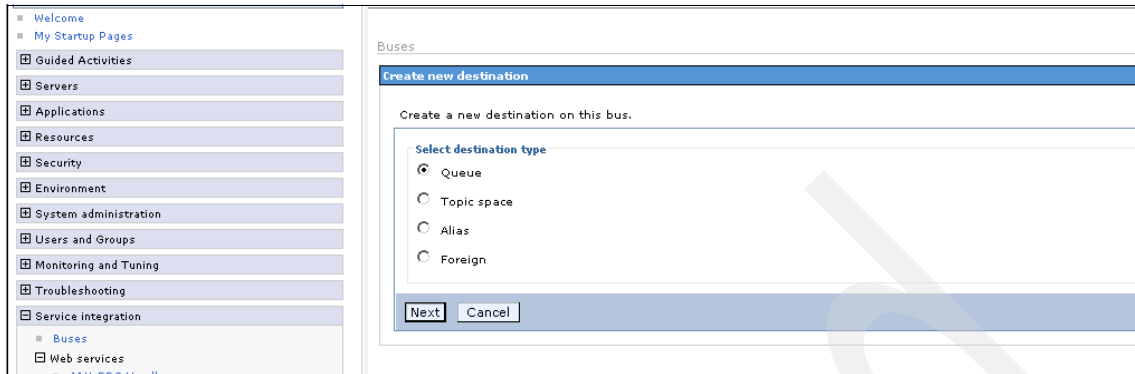

Figure A-32 New destination
2. Click **New** to open the Create new destination dialog box (see Figure A-32 on page 280). Leave Queue checked as the destination type, and click **Next** to open the Create new queue dialog box.